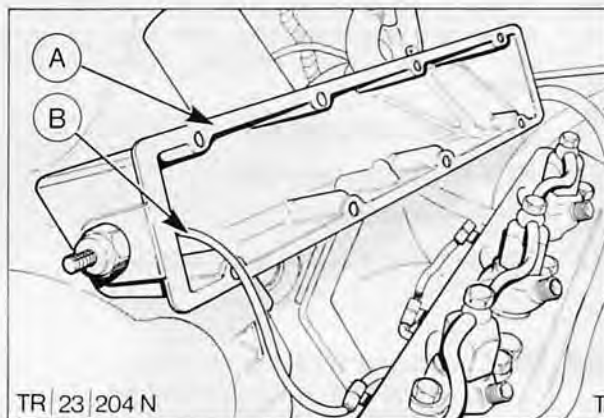

Fig. 82. Removal of inlet manifold
10. Lift manifold clear of engine, disconnect glow plugs internal loom connection and remove manifold, Fig. 82.